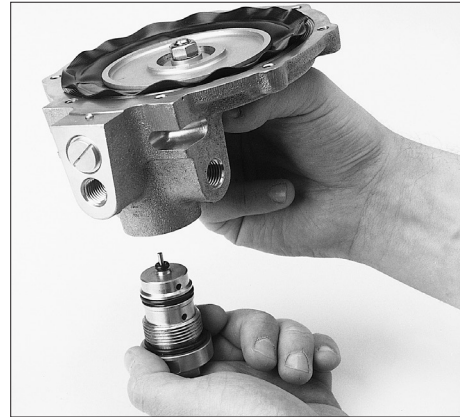

Figure 32
- Insert the Body Insert (Cartridge) assembly into the Pilot body and screw into place snugly. Make sure the Stem O-Ring is lubricated and in place on the Stem of the Body Insert (refer to Figure 32.)